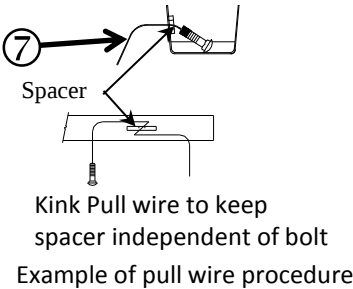
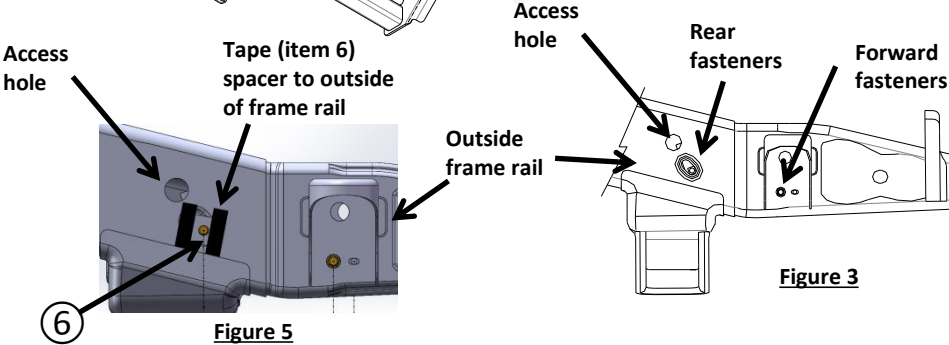
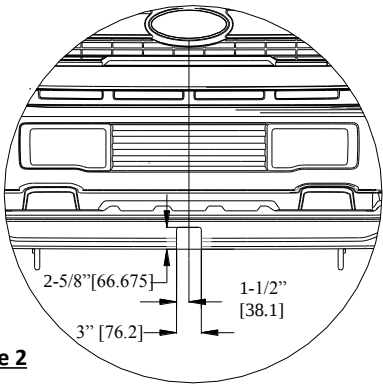

Figure 4
Figure 5
Figure 2
- Trim or remove lower air dam. See Figure 2 If cutting, recommend drilling 3/8" at corners to maintain radius for appearance. See Figure 2
- Feed the coiled end of the pull wire through the bolt forward attachment hole in the side of the frame and out the access hole. (Note: driver & passenger side use opposite hole positions) Attach carriage bolt and spacer (item 1 & 2) to the pull wire. Pull the pull wire with fasteners into location through the hole. Leave pull wires attached. Repeat the same process on the both frame rails.
- Feed the coiled end of the pull wire through the bolt rearward attachment hole in the side of the frame and out the access hole. Attach carriage bolt and spacer (item 1 & 5) to the pull wire. Pull the pull wire with fasteners into location through the hole. Leave pull wires attached. Repeat the same process on the both frame rails.
- Tape spacer (item 6) to rearward attachment location. See Figure 5. Then push all fasteners back into the frame rail leaving the pull wire attached and sticking out. See Figure 4
1. Trim or remove lower air dam. See Figure 2 If cutting, recommend drilling 3/8" at corners to maintain radius for appearance.
2. Feed the coiled end of the pull wire through the bolt forward attachment hole in the side of the frame and out the access hole. (Note: driver & passenger side use opposite hole positions) Attach carriage bolt and spacer (item 1 & 2) to the pull wire. Pull the pull wire with fasteners into location through the hole. Leave pull wires attached. Repeat the same process on the both frame rails.
3. Feed the coiled end of the pull wire through the bolt rearward attachment hole in the side of the frame and out the access hole. Attach carriage bolt and spacer (item 1 & 5) to the pull wire. Pull the pull wire with fasteners into location through the hole. Leave pull wires attached. Repeat the same process on the both frame rails.